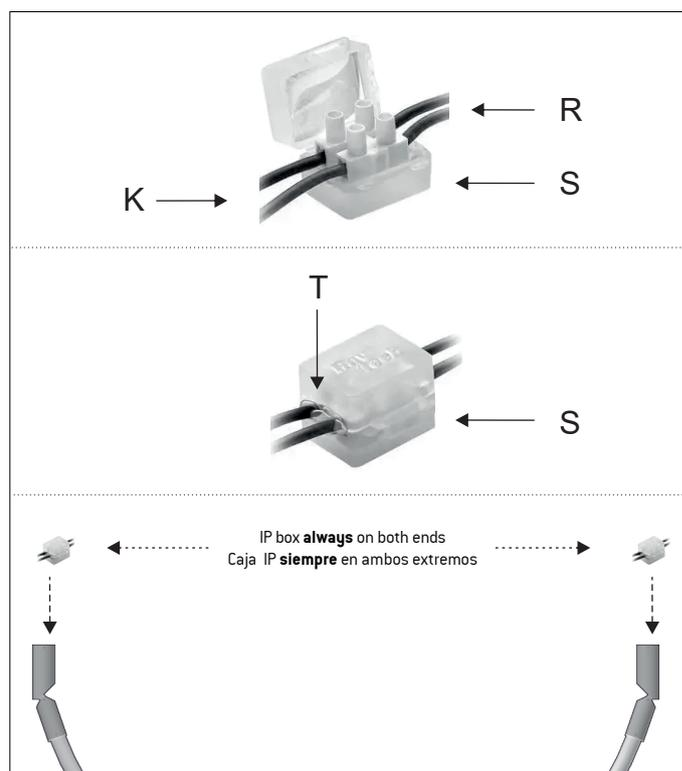

Figure 6
Connect the lamp cables (K) to the driver cables (B) inside the IP junction box (S) made for outdoor installation. Close the IP junction box (S). Excess gel (T) should not be removed to ensure the box is sealed. Figure 6